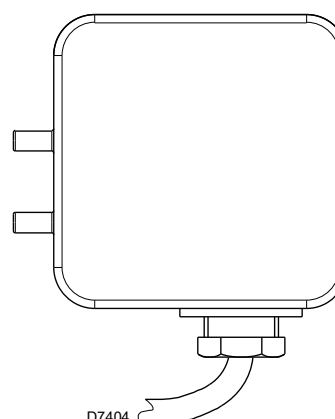

Fig. 18
- Adjust the air pressure switch (Fig. 18) to the start of the scale.
Adjust the air pressure switch (Fig. 18) after performing all other burner adjustments with the air pressure switch set to the start of the scale.